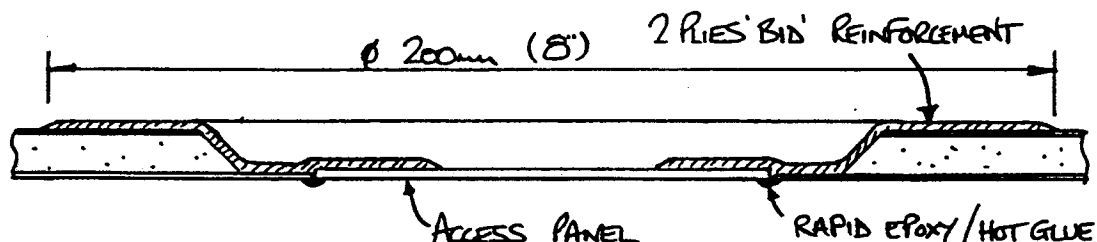

Fig. 4 - Reinforcement
6. Lay-up reinforcement plies of 2 plies of 'bid', the second ply being at 45° to the first, around the hole. These plies should lap onto the access panel by about 20 - 30mm (0.8 - 1.2") and be about 20cm (8") in diameter - (figure 4).